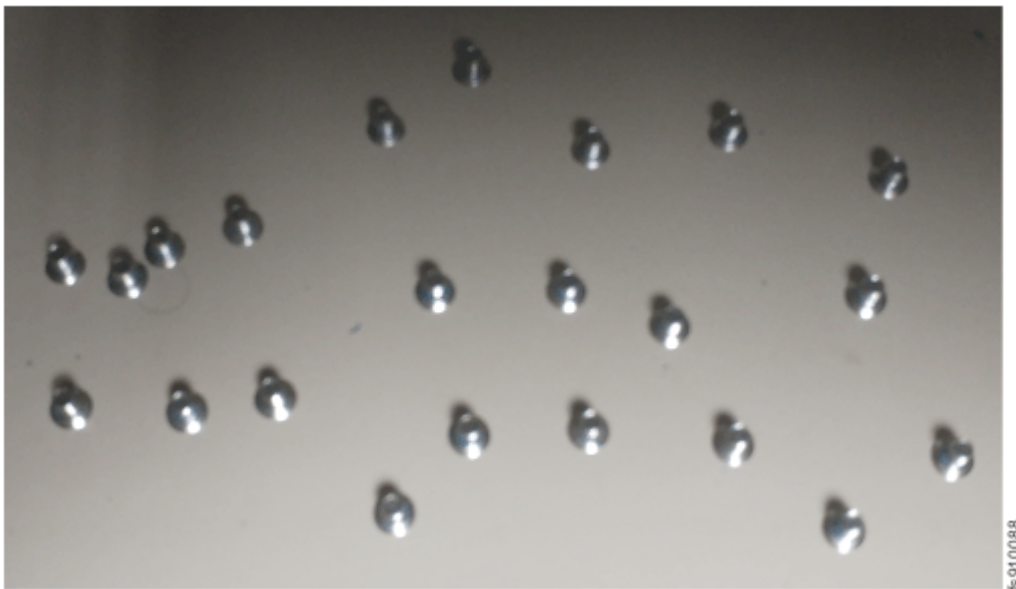

Figure 100. Midplane assembly screws
19. Unpack the replacement midplane assembly. Locate the pack of replacement screws that comes in the package. The package includes 24 screws, but only 22 screws (shown in Figure 100 on page 149) are used to secure the enclosure chassis.